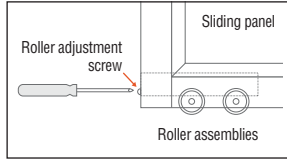
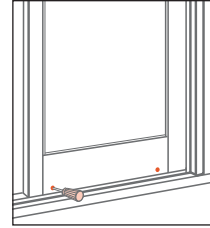

fig. 12
fig. 14
(fig. 12)
(fig. 14 & 14a)
- a. Now adjust roller assemblies up, (clockwise) until the door slides easily. **For Slim Line and Northern Elevations models see fig. 14 & 14a. For Classic French model see fig. 12.**
3. If locking properly use (2) #10 x 2-1/2" Phillips Flat head screws supplied and fasten through the top and bottom of the keeper and into the door jamb.